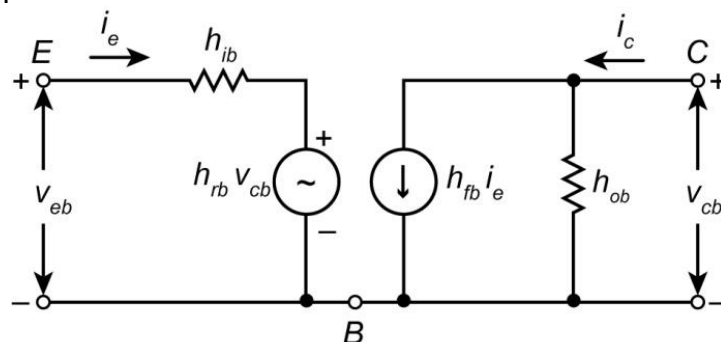

Fig. 5.14: Hybrid circuit of CB configuration.
For calculating the current gain, voltage gain, input impedance and output impedance, we need to use the CB parameters h_{ib} , h_{rb} , h_{jb} and h_{ob} as shown in Fig. 5.14.
1. Using the hybrid circuit for the CB configuration shown in Fig. 5.14, prove